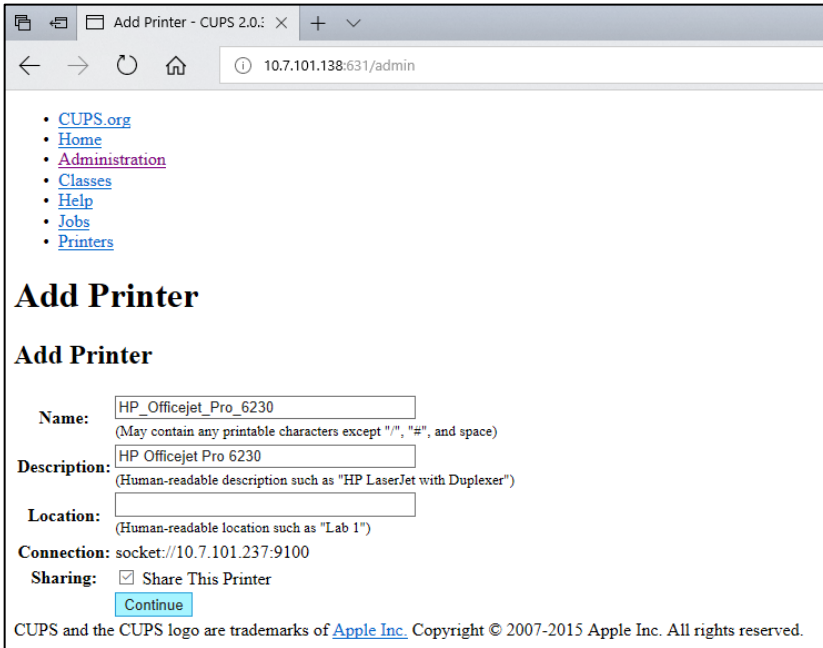

Figure 102. Add printer screen.
5. Select **Share this printer** and press **Continue** (Figure 102).